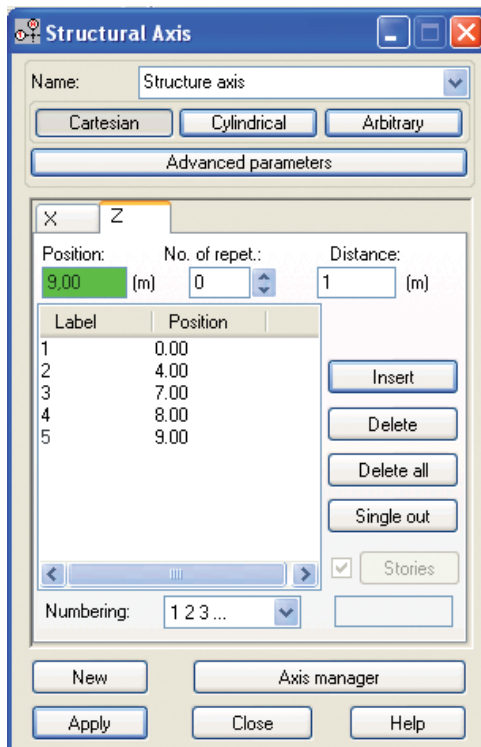

Figure 3 - Definition of structural axis in Z direction.
4. On the **Z** tab in the **Position** field type **0** and press **Insert** button, in the same way enter following axis coordinates as shown below (Figure 3):